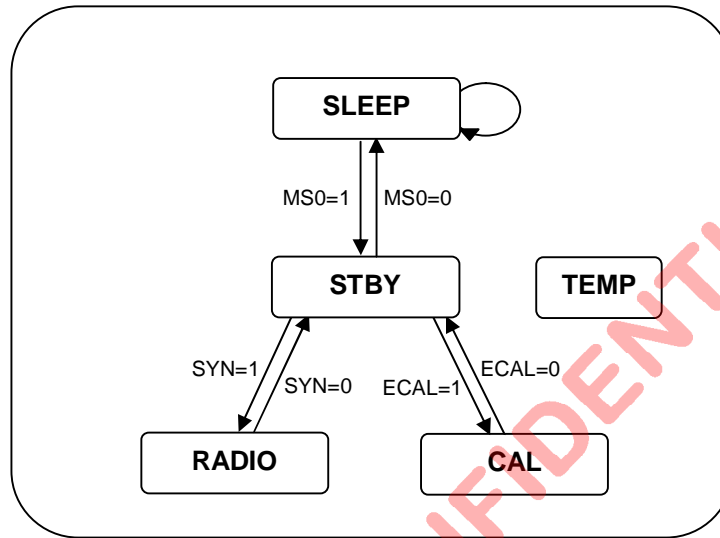

Figure 1: A7121 State Diagram
The state machine inside the chip controls the A7121 GFSK transceiver operation. During normal operation, the A7121 is in one of five states (i.e., SLEEP, STBY, RADIO, CAL, TEMP). The state diagram is shown in Figure 1 below.
The A7121 must be in the TEMP (Temperature measurement) state to do temperature measurement as shown in Figure 1. The TEMP state is an independent state. It may execute temperature measurement in the TEMP state simultaneously when the transceiver is in other state (except the SLEEP state) for doing some thing. For doing temperature measurement, there are some configurations must be set. First, the EXDR bit (**Mode control register** bit 8) must be set to 1. The ET bit (**Calibration control register** (I) bit 0) for enabling temperature measurement must be set to “1” to enter the TEMP state. After the measurement is done, the ET bit will be set to “0” automatically and the transceiver will leave the TEMP state. The state transition to the TEMP state will postpone if the calibration process or RSSI measurement is executing. Similarly, the state transition of the CAL state or the RSSI sub-state will delay until the temperature measurement is done. The following figure is RSSI measurement timing.